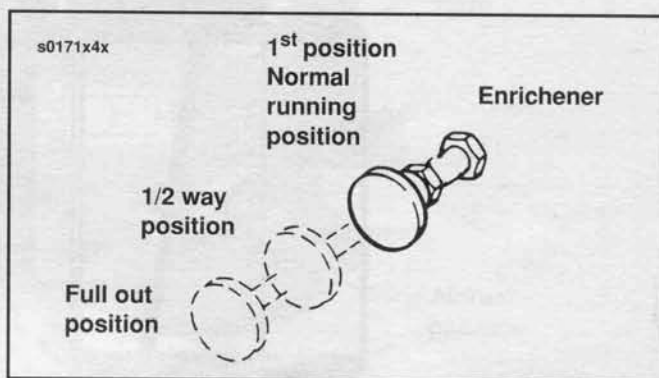

Figure 4-2. Setting the enrichener
1. See Figure 4-2. After initial 15-30 second warm-up, ride for 3 minutes or 2 miles (3.2 km) with enrichener knob in full out position.
1. See Figure 4-2. After initial 15-30 second warm-up, ride for 1 minute or 1/2 mile (0.8 km) with enrichener knob in full out position.